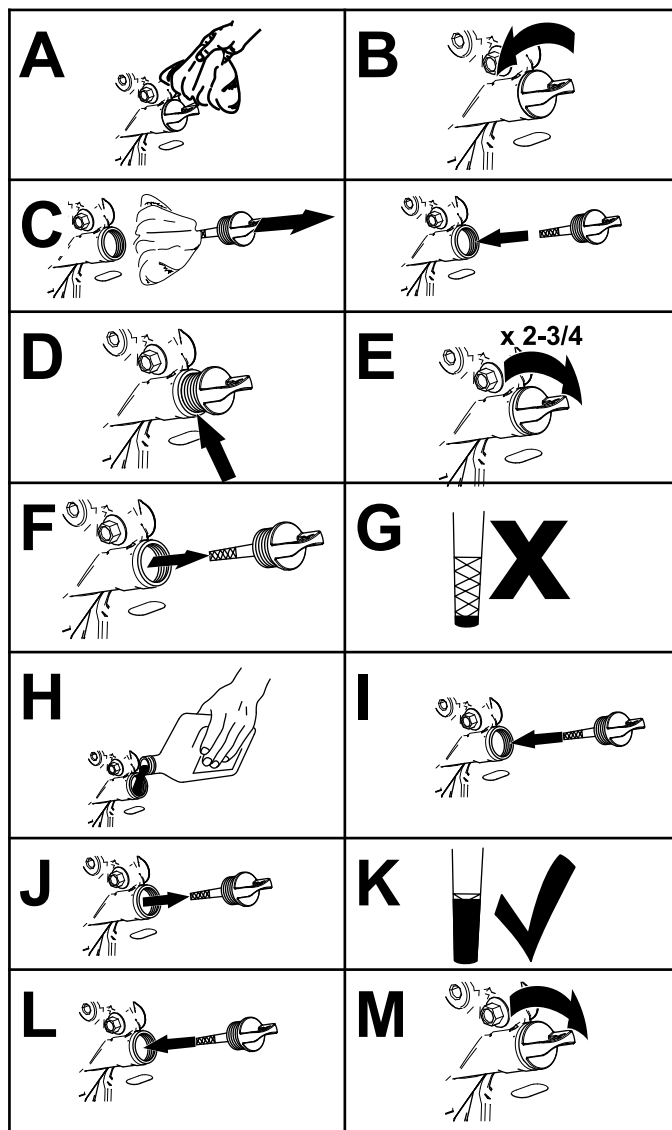

Figure 34
- Check the engine-oil level as shown in Figure 34.